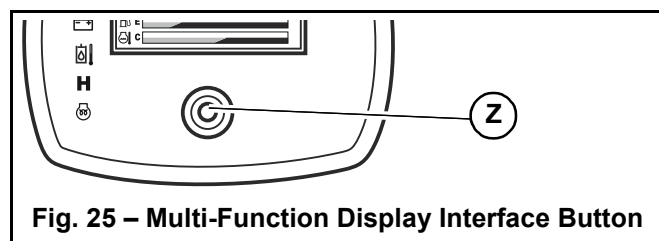

Fig. 25 – Multi-Function Display Interface Button
1. Hold down the interface button (Z, Fig 25) on the multi-function display for 5 seconds.